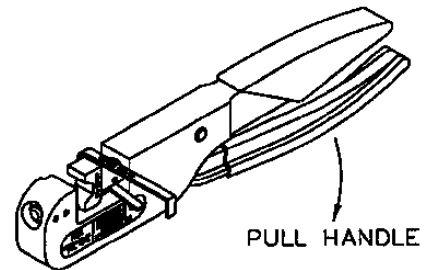

FIG. 3
2. Close the crimping tool handle and slide the die removal tool between the die and tool body (See Figure 3). Pull handle open with a snap action. The die will be released and can then be removed by hand.